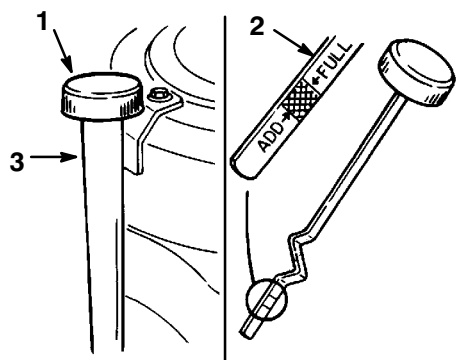

Figure 34
3. Clean around the oil dipstick (Fig. 34) so dirt cannot fall into the filler hole and damage the engine.
4. Unscrew the oil dipstick and wipe the metal end clean (Fig. 34).
5. Screw the oil dipstick fully onto the filler tube (Fig. 34). Unscrew the dipstick again and look at the metal end. If oil level is low, slowly pour only enough oil into the filler tube to raise the level to the "FULL" mark. Tighten the dipstick.
7. Slowly pour approximately 80% of the specified amount of oil into the filler tube (Fig. 34). Now check the oil level; refer to Checking Oil Level, page 33. Slowly add additional oil to bring to FULL mark on dipstick.